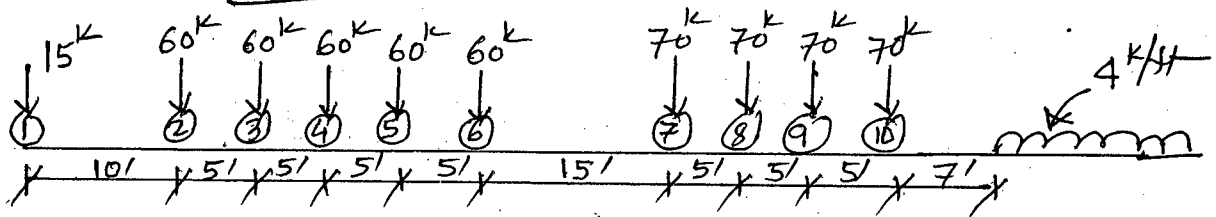

Fig. 11
12. Determine maximum shear at one-third point of a simply supported beam of 66 ft due to the wheel loads shown in Fig. 11. (28)
13. Find maximum moment at quarter point of a simply supported beam of 80 ft. Consider wheel loads as shown in Fig. 11. (28)